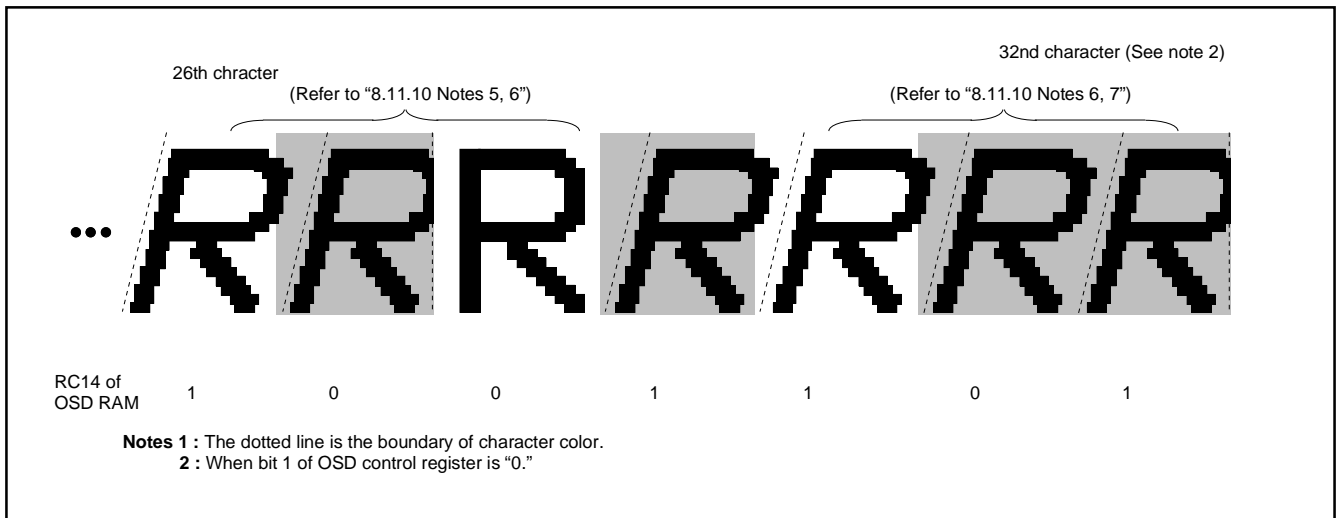

Fig. 8.11.31 Example of Italic Display
**5:** The boundary of character color is displayed in italic. However, the boundary of character background color is not affected by the italic (refer to Figure 8.11.31).
**6:** The adjacent character (one side or both side) to an italic character is displayed in italic even when the character is not specified to display in italic (refer to Figure 8.11.31).